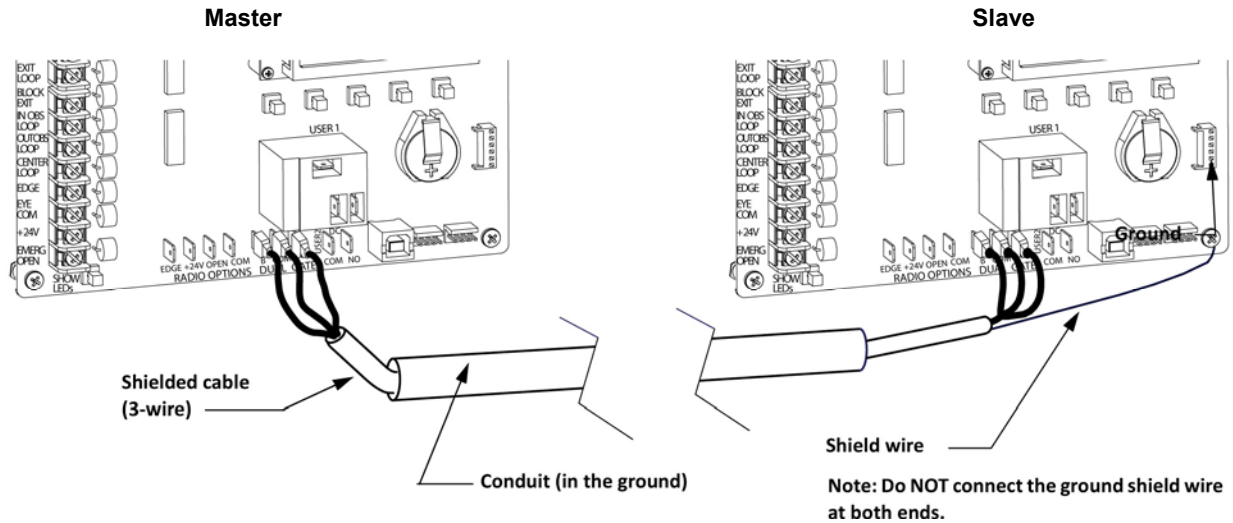

Figure 5-2.
- An electrical conduit for interconnecting wires must span between the two operators. The master-slave communication wires and any low voltage control wires must be installed in a conduit that is separate from the high voltage power wires. Refer to Figure 5-2.
1. As shown in Figure 5-2, connect a shielded communications cable to the DUAL GATE inputs in each unit. The inputs are located near the base of the Smart DC Controller. Be sure to connect the wires in pairs to the same terminal ports (A-A, B-B, and COM to COM) on both units. See Master Slave Connections on SDC Boards Table 5-2.
2. Attach a ring terminal to the shield wire and connect it to the Smart DC Controller's convenient ground screw. Refer to Figure 5-2.